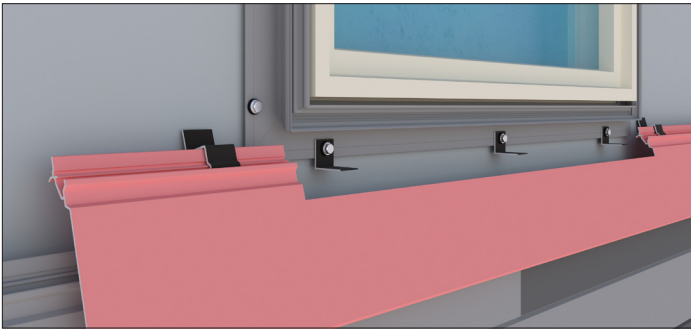
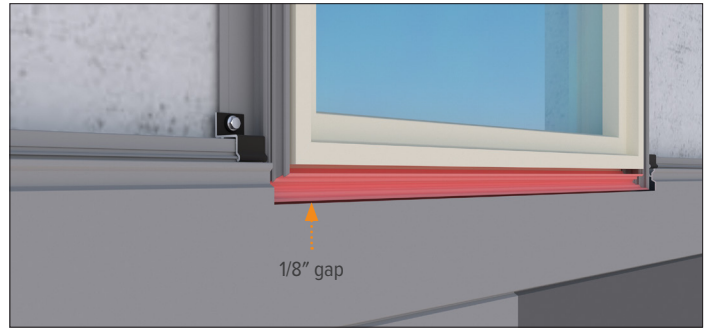

Figure 3.1
Figure 3.2
- 3 Notch P46V or P44V plank to go around the sill of window (Figure 3.1), ensuring a 1/8" gap is between the horizontal notched plank and horizontal P11 back plate (Figure 3.2).